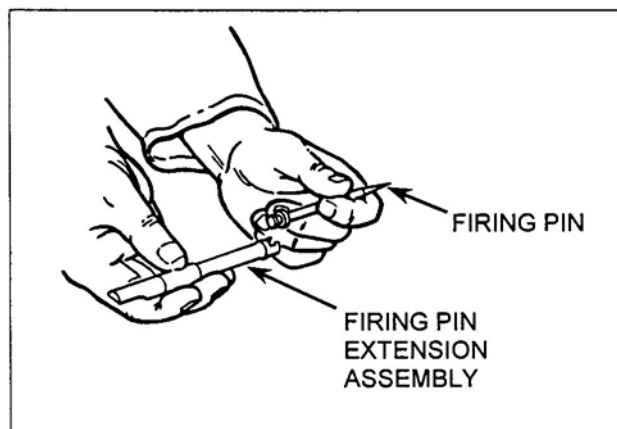

Figure 30. Attachment of the firing pin to the firing pin extension assembly.
- (1) Attach firing pin to firing pin extension assembly (Figure 30).